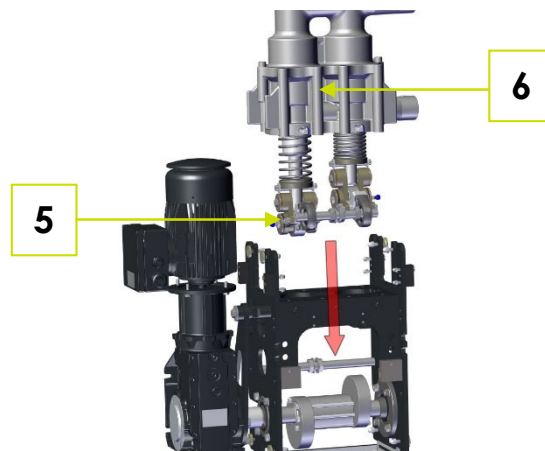

Fig. 7-4: Mounting the shear axles, inserting the pump unit
1. Insert the pump unit, including the two-joint rocker arms and the shear axle (6) (Fig. 7-4: Mounting the shear axles, inserting the pump unit).